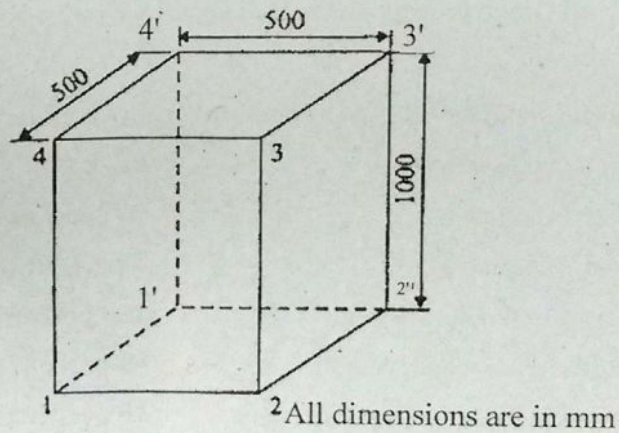

Figure 14 (b)
- (b) A container open on one side of size 0.5 m \times 0.5 m \times 1 m is to be fabricated from 6 mm thick plates Fig. 14 (b). The plate metal weighs 8 gm/cc. If the joints are to be welded, make calculations for the cost of container.